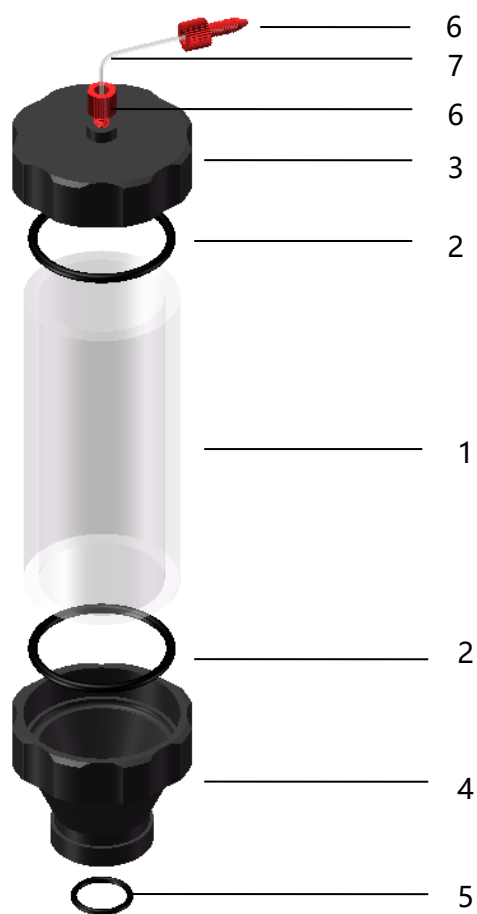

Figure 9. Schematic diagram of column packing
1. Remove the column head and replace it with a suitable column loader (Figure 9) to ensure that the column bottom assembly is correctly installed, and the O-ring is tightened.